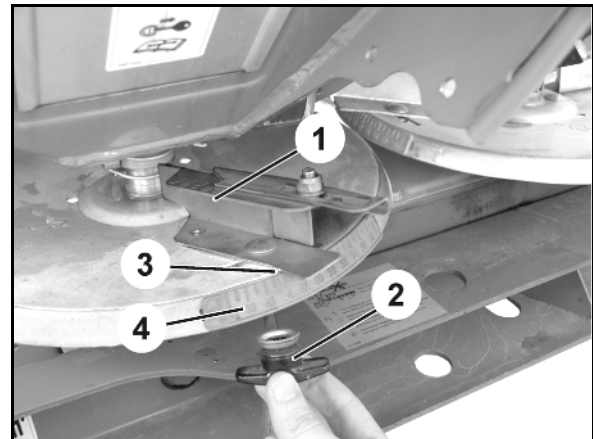

Fig. 84
7. For **boundary spreading**, move the slider position of the setting lever (Fig. 84/1) on the left side of the machine back by two scale intervals (Fig. 84/2).